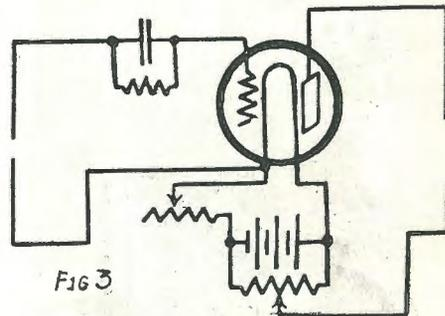

FIG. 3
Fig. 3 is that of a soft detector valve and shows the grid return connected to the negative filament and not the battery. This brings the connections between the filament and rheostat. A potentiometer (P) is connected across the A battery and the negative of the B battery connected to it for control of plate potential. The filament rheostat used with a soft valve should be a vernier if